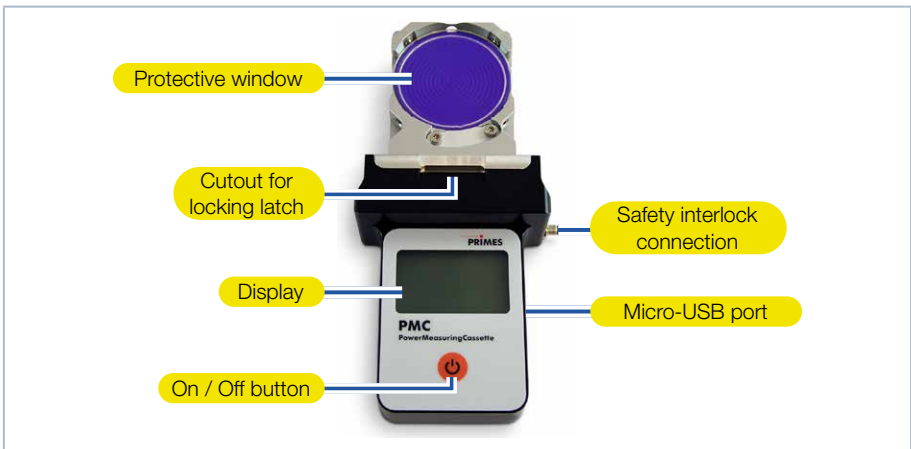

Fig. 4.1: Device description
5. Push the device into the slot of the laser processing head until the locking latch locks into the cutout (see Fig. 4.1 on page 13).